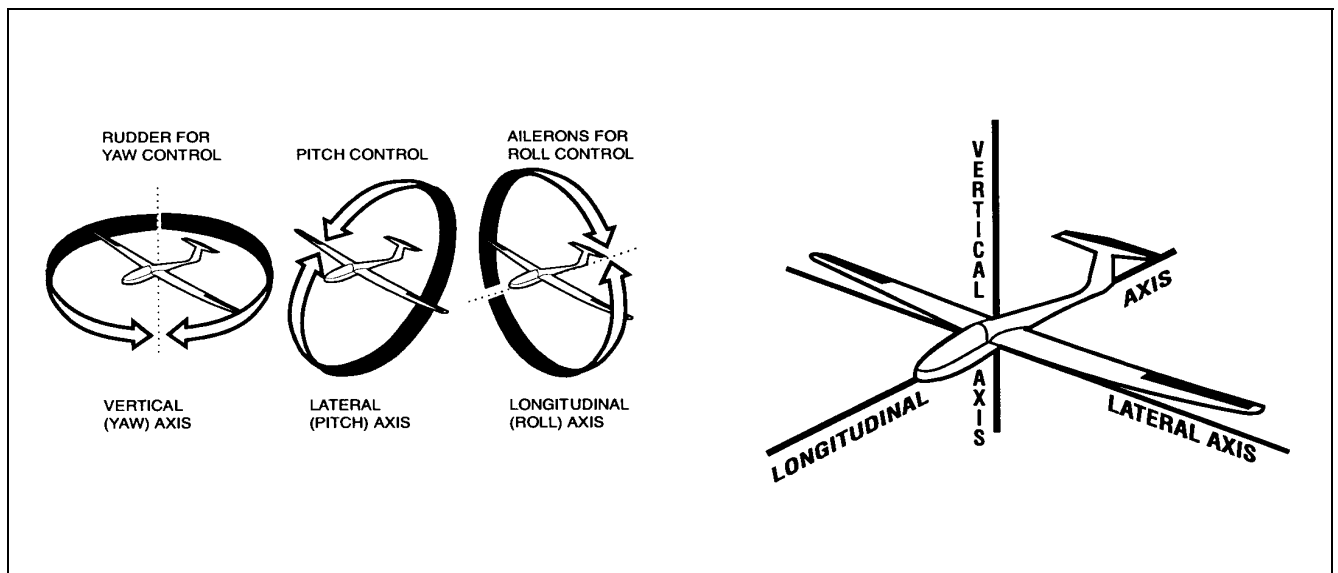

Figure 6-3-1 Axes of an Aircraft
1. Having control of an aircraft means that you are free to manoeuvre the aircraft into any desired attitude. Unlike land-borne vehicles, an aircraft has the ability to pitch, roll and yaw. This movement is always about the lateral, longitudinal or vertical axes, which pass through the centre of gravity (CG). See Figure 6-3-1.